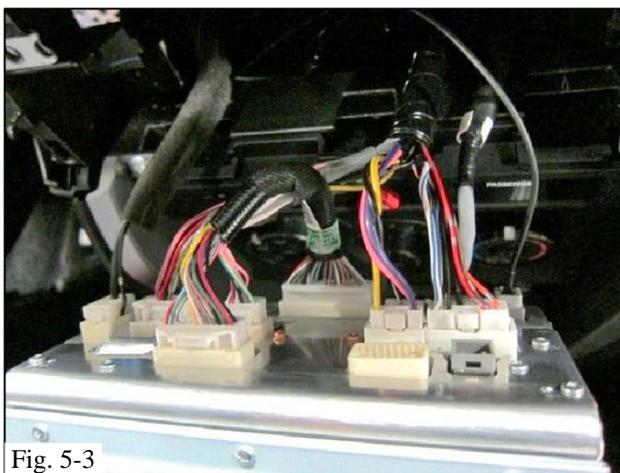

Fig. 5-3
- (c) Confirm all harness connections are completed (Fig. 5-3).